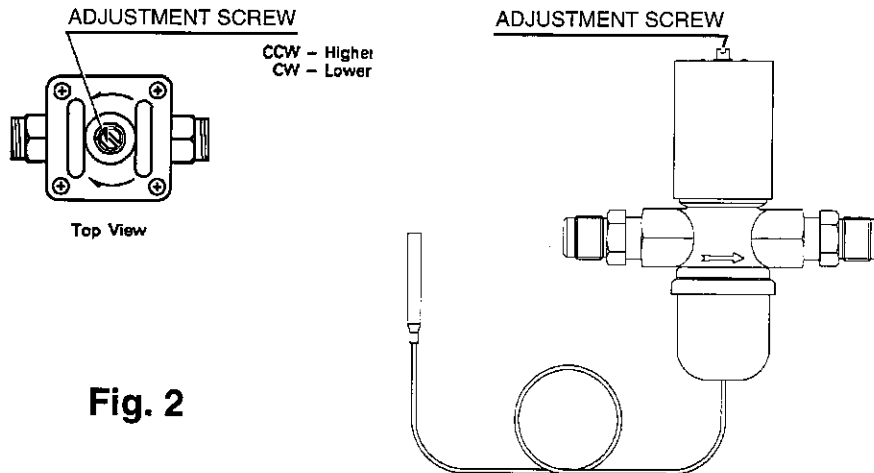

Fig. 2
- 2) Rotate the adjustment screw by using a flat blade screwdriver, so that the pressure gauge shows the temperature specified in Table 1, 5 minutes after a freeze cycle or icemaking process starts. When the pressure exceeds 235 PSIG, or the condenser drain temperature exceeds the temperature range, rotate the adjustment screw counterclockwise. See Fig. 2.